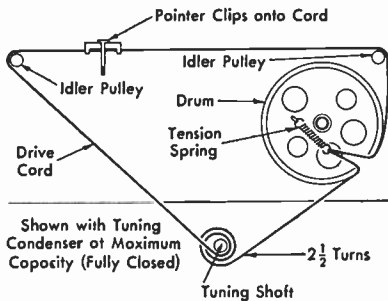

Fig. 4. Simplest slide-rule system for making a pointer move over a straight tuning-dial scale
**Simple Slide-rule Dial.** The simplest way of obtaining sliding action of a pointer on a straight dial is with the arrangement shown in Fig. 4.